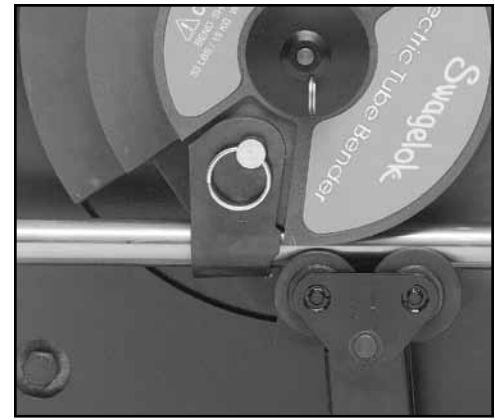

Figure 9
3. Slide tubing through tube clamp and align the bend mark with the left edge of the tube clamp. (See Figure 9.)